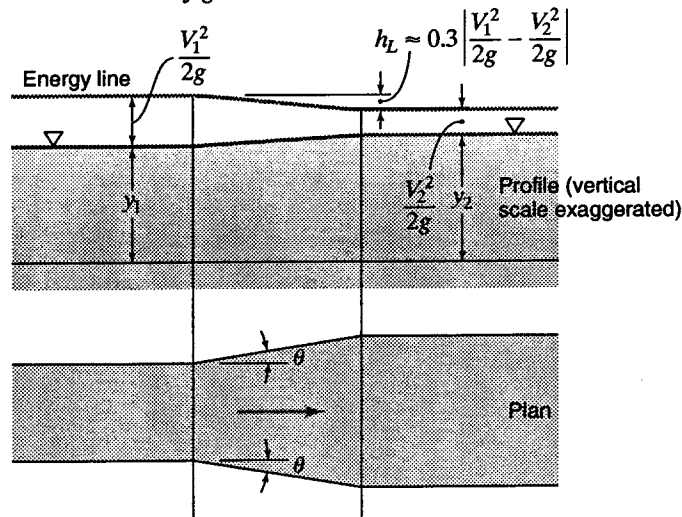

Figure 10.32
- 10.78 Refer to Fig. 10.32. A rectangular channel changes in width from 5 to 7.5 ft. Measurements indicate that  $y_1 = 3.00$  ft and  $Q = 62$  cfs. Determine the depth  $y_2$  by (a) neglecting head loss; (b) considering the head loss to be given as shown on the figure.